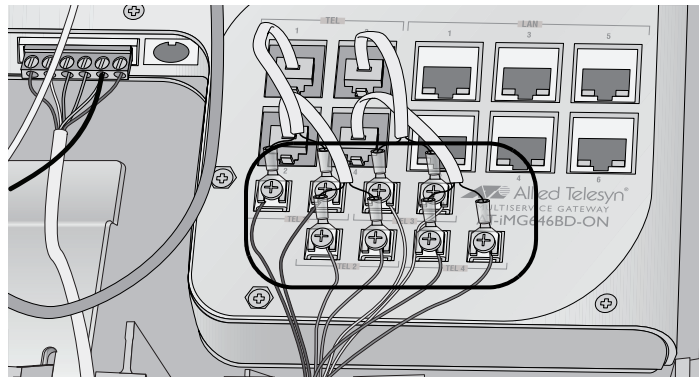

Figure 41. Connecting the Telephone Wires
3. Connect the telephone wires to each pair of telephone terminal posts in the enclosure, as shown in Figure 41, at 5.3 in-lbs.